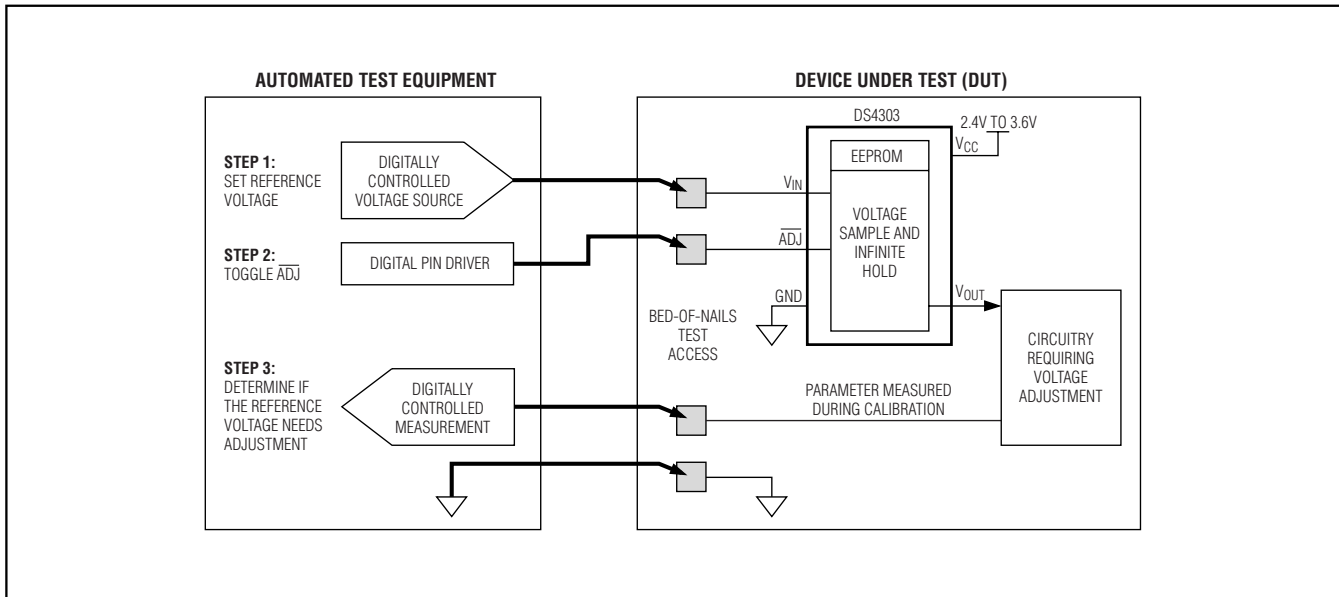

Figure 2. Application Circuit
Figure 2 details an example of how the DS4303 can be adjusted in an application. During factory alignment, a three/four-node bed-of-nails is used to: (1) provide the adjustment voltage through the V_{IN} pin, (2) control the **ADJ** input, and (3) sense the needed feedback parameter. During manufacture, an automated test procedure adjusts V_{OUT} , by changing V_{IN} , until the feedback parameter is optimized. After the bed-of-nails operation is complete, both the V_{IN} and **ADJ** inputs are left open